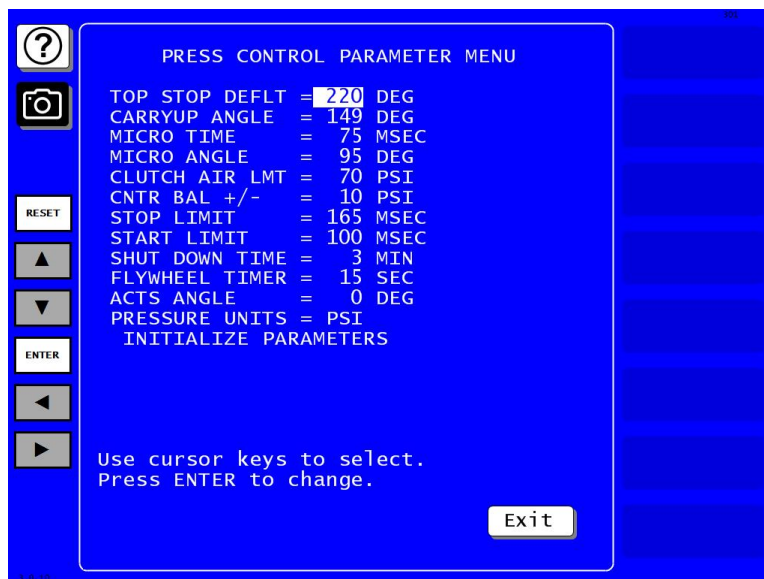

Figure 3-9. Press Control Parameter Menu
1. In the Press Control Parameter menu, Figure 3-9, page 50, use the cursor keys to select TOP STOP DEFLT. Press ENTER. A numeric entry window appears.
Enable Micro-inch via the MICRO ANGLE setting on the Press Control Parameter menu, Figure 3-9, page 50. The Micro Angle default setting is 185°, which disables Micro-inch. To enable this feature, change the Micro Angle to another setting between 186° and 184°. The angle you specify enables Micro-inch for the range of angles between that value and 185°.